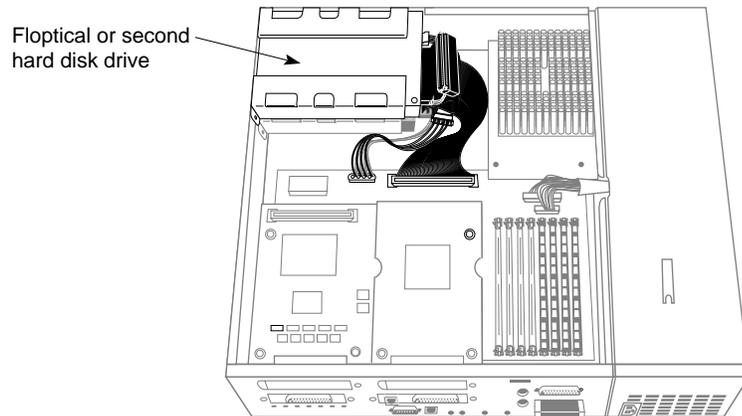

Figure 9-19 Locating the Floptical or Second Hard Disk Drive
5. Locate the floptical or second hard drive, as shown in Figure 9-19.
5. Locate the floptical drive or second disk drive (if installed) in the top drive slot, as shown in Figure 9-19. (This might also be a second hard disk drive.)